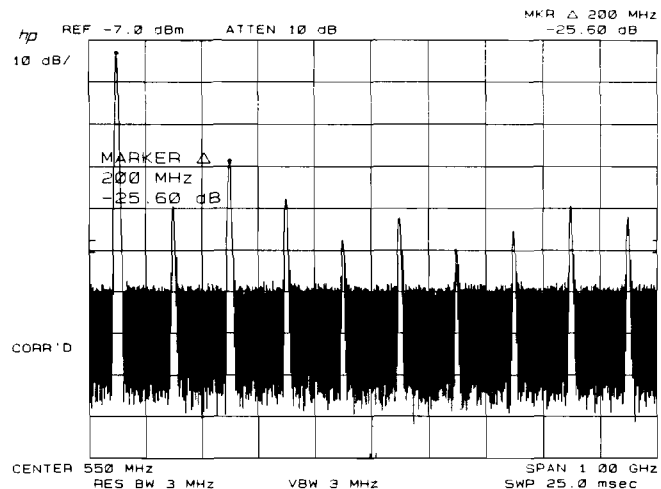

Figure 3-86. CAL OUTPUT Harmonics
10. On the second spectrum analyzer, press MARKER **PEAK SEARCH**, **Δ** to position a marker on the peak of the displayed 100 MHz signal. Then, press the **⇧** key (or turn the DATA knob) to position the second marker on the peak of each displayed harmonic of the 100 MHz signal in succession, and verify that the level of each harmonic is greater than 25 dB down relative to the peak of the 100 MHz CAL OUTPUT signal. See Figure 3-86.